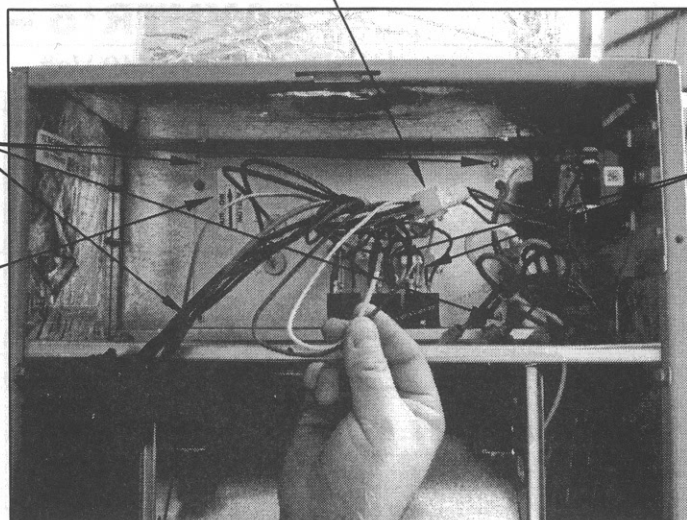

FIGURE 2
- 6.) Secure heater to control box opening with four screws located at the corners of the mounting plate. (See fig. 2)
- 12.) Connect the polarized harness plug to the polarized plug on the heater. (See fig. 2)
- 9.) Connect the polarized harness plug to the polarized plug on the heater. (See fig. 2)